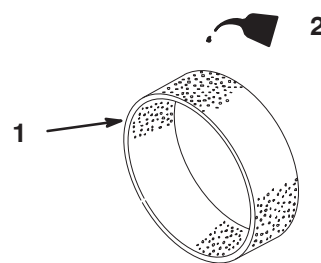

Figure 25
- Put one or two ounces of oil on the element (Fig. 25).